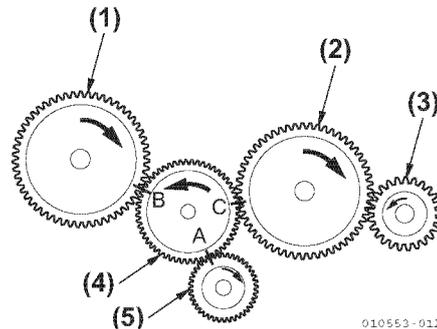

Figure 5-160
- Align the "B" match marks on the fuel injection pump drive gear and idle gear (Figure 5-160).